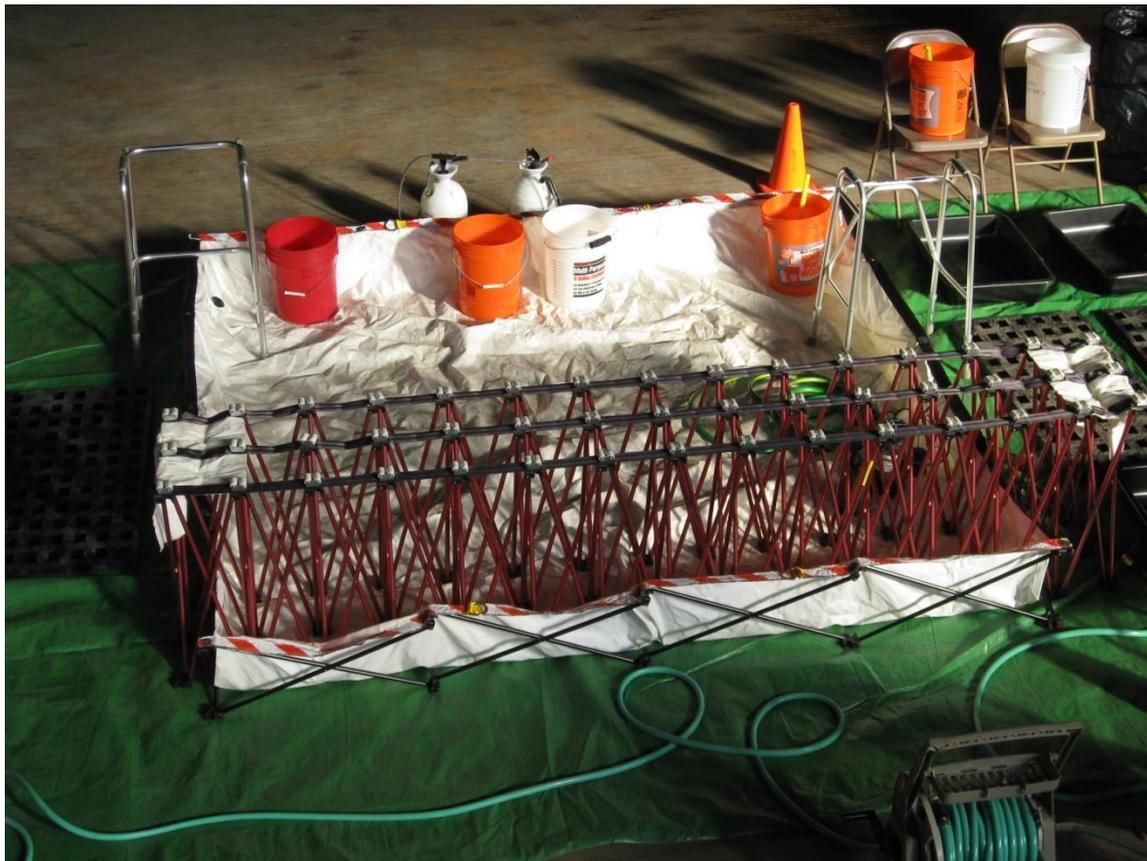

Figure 2
**Station # 3 – Rinse (Figure 2)**